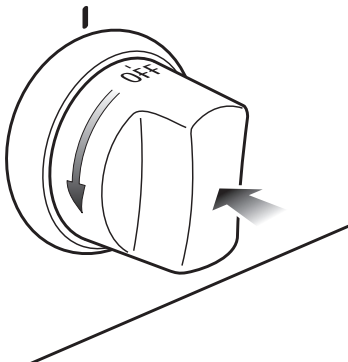

Fig. 2.2
- 1 – Push and turn the knob in an anti-clockwise direction up to the ★ **HI** position (maximum rate), push in and hold the knob until the flame has been lit (fig. 2.2).